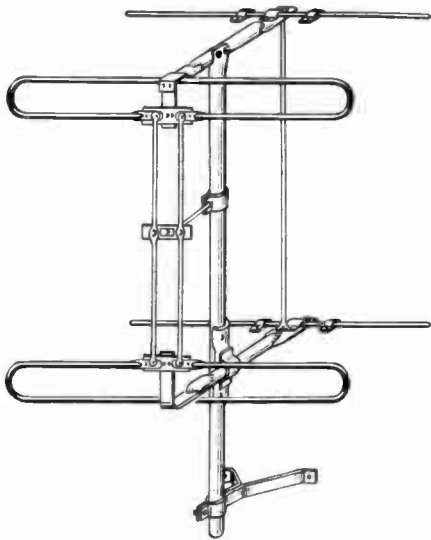

Fig. 6 This Taco 495 is a combination broadside and parasitic high band array type
2. *Stacked or broadside arrays.* The front portion of the antenna of Fig. 2 is an example of a stacked array. In this type, all the elements are connected either directly or indirectly, through transmission lines, to the feed line. The spacing of the elements and the length and arrangement of the line connecting them are designed to give currents in the elements a phase relation which increases their receiving sensitivity. In television arrays the elements are ordinarily half-wave long for some middle frequency of the range, and are spaced from about an eighth wave to about a half wave length apart. The half wavelength spacing gives better gain, but for the lower frequency range is usually considered too bulky. In high band arrays, however, half-wave spacing is generally used, as illustrated in the antenna array of Fig. 6.
Although the front portion of the array of Fig. 2 is of the stacked type, it is also equipped with reflectors, which are of the parasitic type, making this antenna a combination type, as is also the example of Fig. 6.
Current feed-back is accomplished in a majority of modern smaller radios by simply *omitting* a part! The bypass condenser is omitted from the cathode resistor as shown in two typical circuits, illustrated in Fig. 5 and Fig. 6.